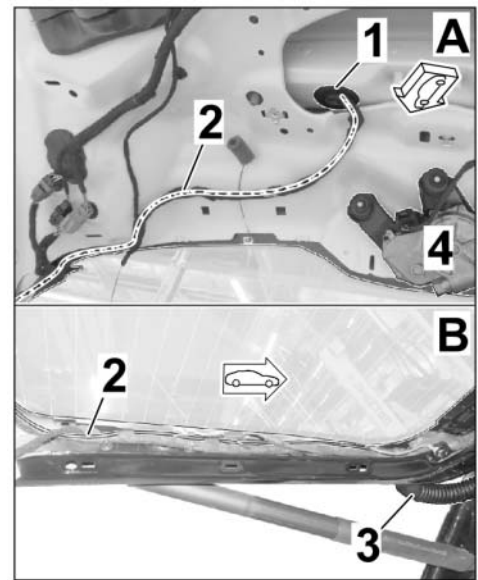

Figure 18
- Route VT/WH 0.5² line (socket contact) along the existing line to the left side of the rear window frame. Sport Turismo: ⇒ *Figure 18-A-*
- Route VT/WH 0.5² line further along the left rear window frame to the grommet on the (left) tailgate hinge. ⇒ *Figure 18-B-*